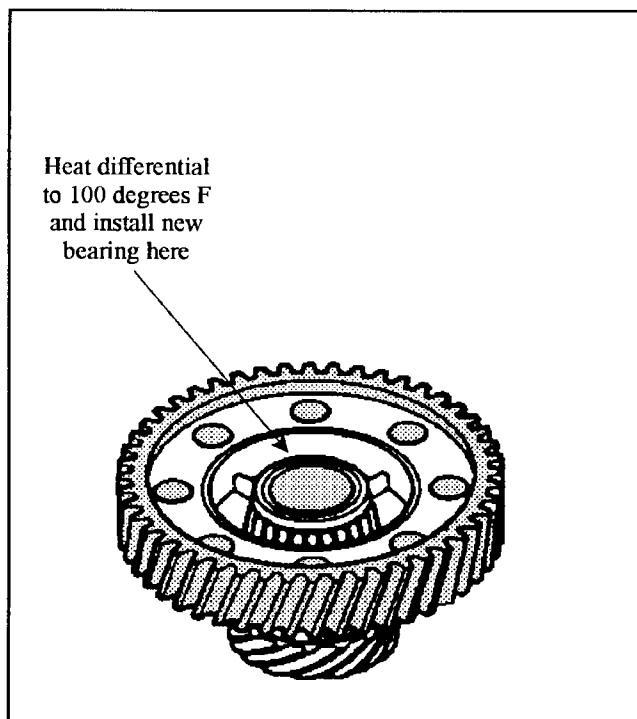

Figure 112
2. Heat the differential to 100 degrees F. and install a new tapered roller bearing, using tool V.W. 411 with adapter 40-21 or equivalent (See Figure 112 and 113).